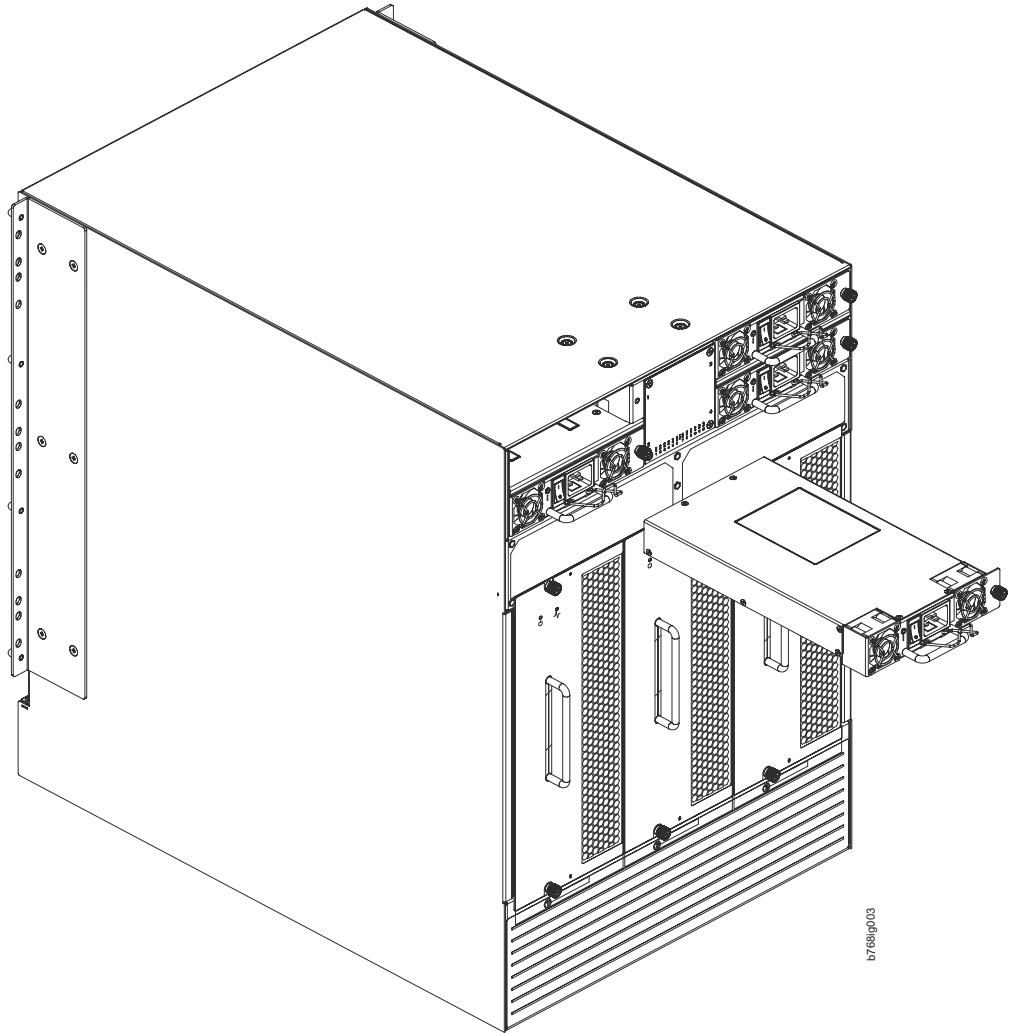

Figure 36. Removing and installing a power supply
5. Grasp the handle and pull, sliding the power supply from the chassis, supporting the power supply from beneath as you remove it. (see Figure 36).